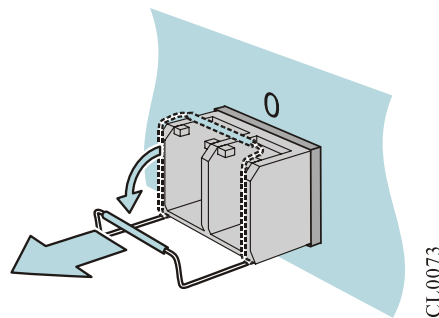

FIGURE 5-3 UNINSTALL SFP+ MODULE
Step 2: Pull the handle of the SFP+ module down to the horizontal position, and then pull out the SFP+ module. The diagram of un-installing the SFP+ module is as shown in Figure 5-3.